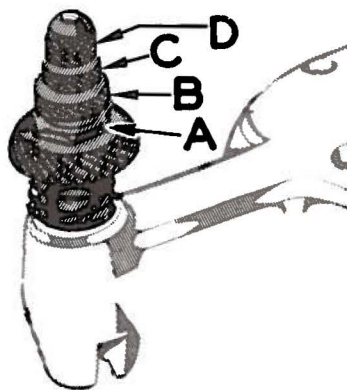

Fig. 2
Sufficient pressure to feed work uniformly should be maintained. Should it be necessary to increase or decrease amount of pressure on presser foot, loosen lock nut (A, Fig. 2) and turn adjusting screw (B). Adjusting screw has a right hand thread, so tightening increases pressure, loosening decreases pressure. When pressure adjusting screw (B) has been properly set, tighten lock nut (A). With presser foot resting on throat plate, position locking nut (C) so that its under surface is approximately 1/32 inch to 1/16 inch from the top surface of adjusting screw (B). Set cap (D) against locking nut (C).